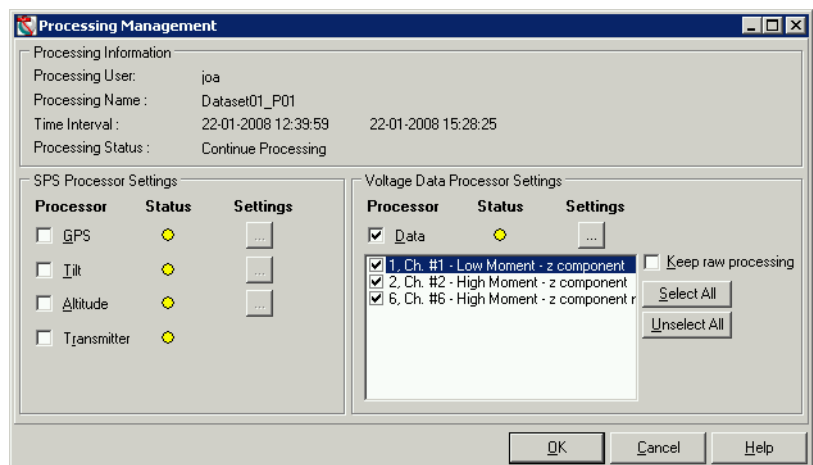

Figure 2.2 The Processing Management window.
4. When the time interval is specified the Processing Management window, seen in figure 2.2 is opened and settings for the automatic processing can be entered. Just use the default settings for now.
This window is the control center for the automatic processing. The window is divided into five different processors, four concerning the SPS data and one concerning the voltage data (see figure 2.2). When the selected processors are run any previously made automatic or manual processing of these is by default overwritten. It also saves the result of the processing in the database.